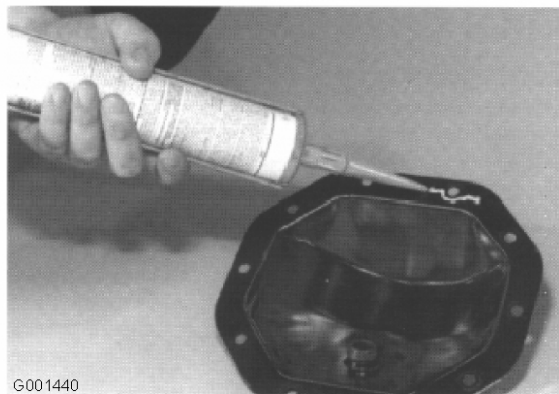

Figure 13
3. Place a small bead of RTV silicone sealant to the flanged edge of the new cover plate (Figure 13). The sealant should be applied inside of the cover plate mounting holes.